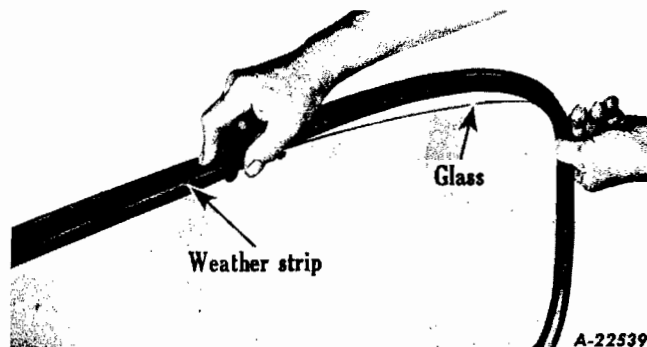

Fig. 22
2. Carefully place the moulded weather strip on the glass as shown in Fig. 22.